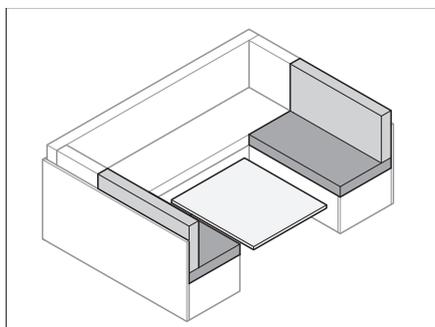

Fig. 77 Converting the table
- Convert the table (Fig. 77) into a bed foundation (see Section 7.8).